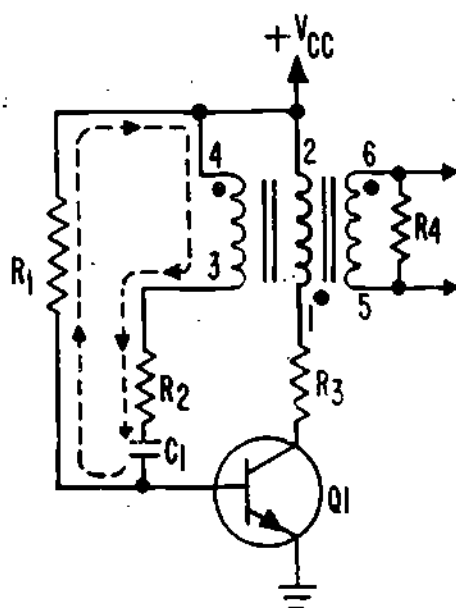

Figure 15
20. The schematic diagram shown in Figure 15 shows a slight variation of the basic blocking oscillating circuit. This is schematic for the NIDA blocking oscillator which you will become familiar with when you complete the job performance associated with this lesson.